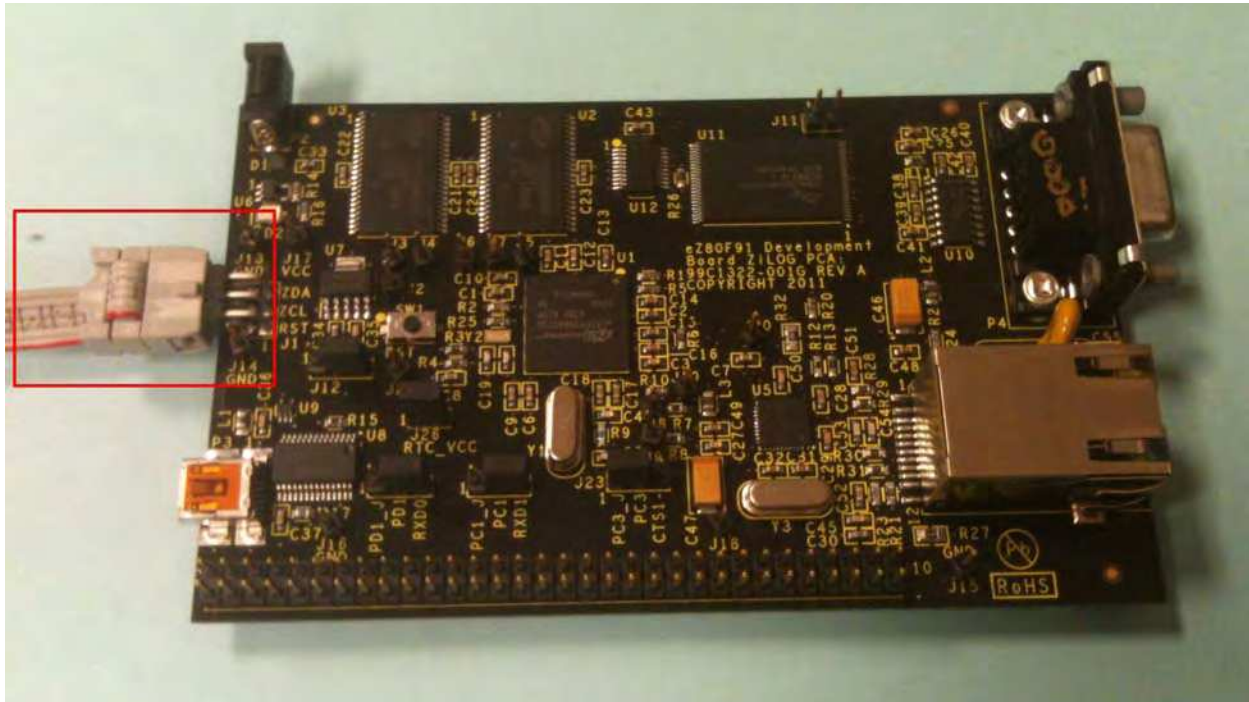

Figure 4. Debug Connector J1
3. Connect the other end of the ribbon cable to Debug Connector J1 on the Development Board. Ensure that Pin 1 on the ribbon cable is aligned with Pin 1 on the target connector, as highlighted in Figure 4.